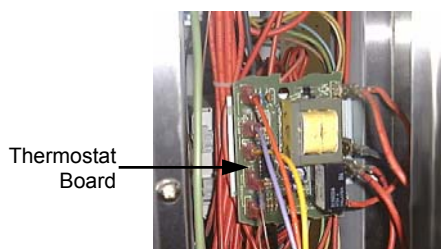

Figure 6.3.13
- 4) With control panel open (6.2.1) remove wires from thermostat board (2 brown wires at bottom left of board - refer figure 6.3.13).